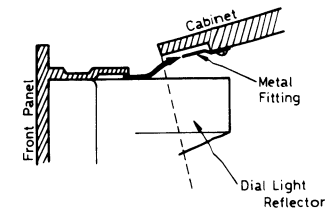

Fig. 8
- When the cabinet is installed, insert the metal fitting of cabinet (as shown in fig. 8) into the space between the front panel and light reflector.